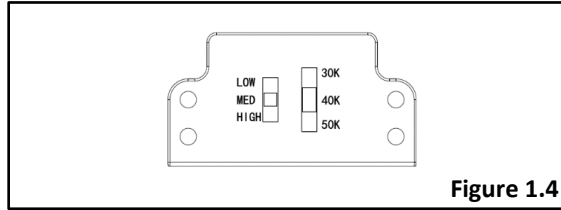

Figure 1.4
6. Select desired CCT and wattage settings on switches (Fig 1.4).